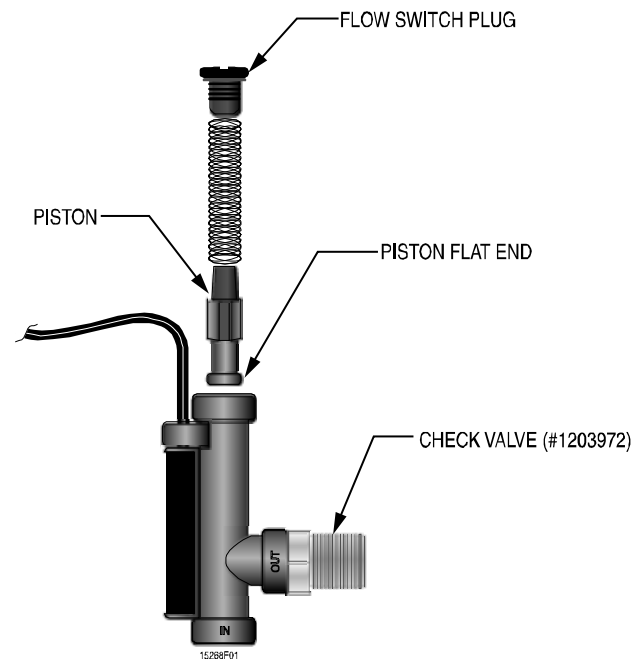

Figure 2. Replacing Flow Switch Piston
7. Replace flow switch piston by unscrewing the flow switch plug. Discard the old piston, and insert the new one, flat end first as shown in Figure 2. The new piston has a white dot on the bottom.